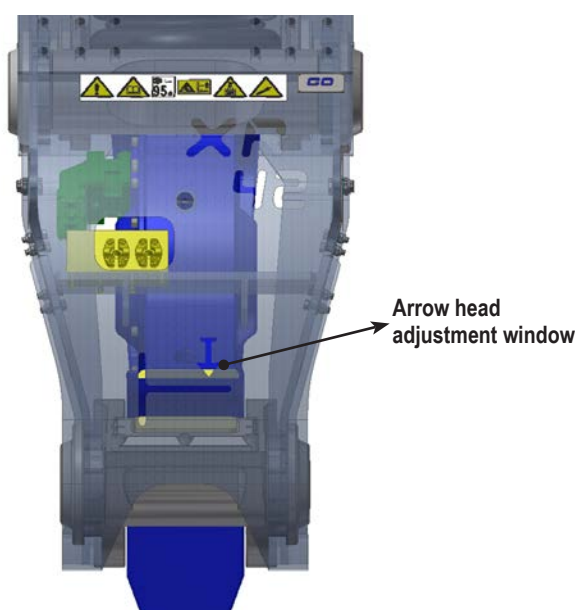
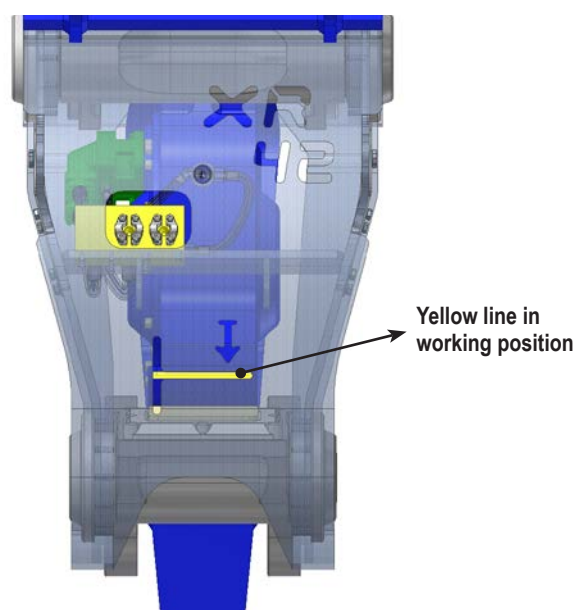

Fig. 2
Fig. 3
4. In this position (Fig. 1), without activating the ripper, the yellow mark must be seen through the **head of the arrow** in the adjustment window (Fig. 2). But when the ripper is **working**, the yellow line should be seen through the **horizontal** adjustment window (Fig. 3).